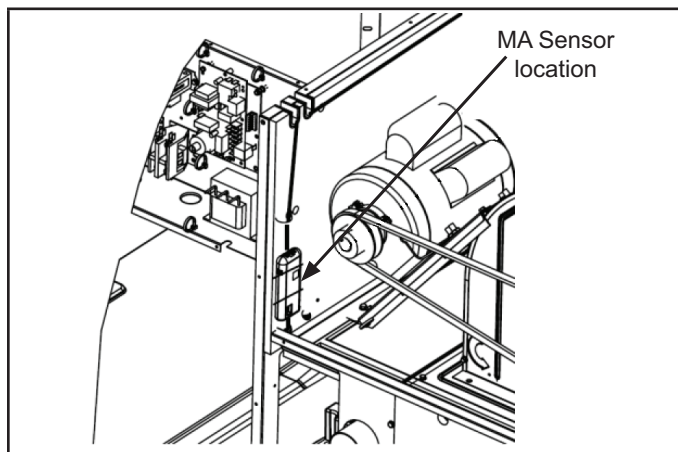
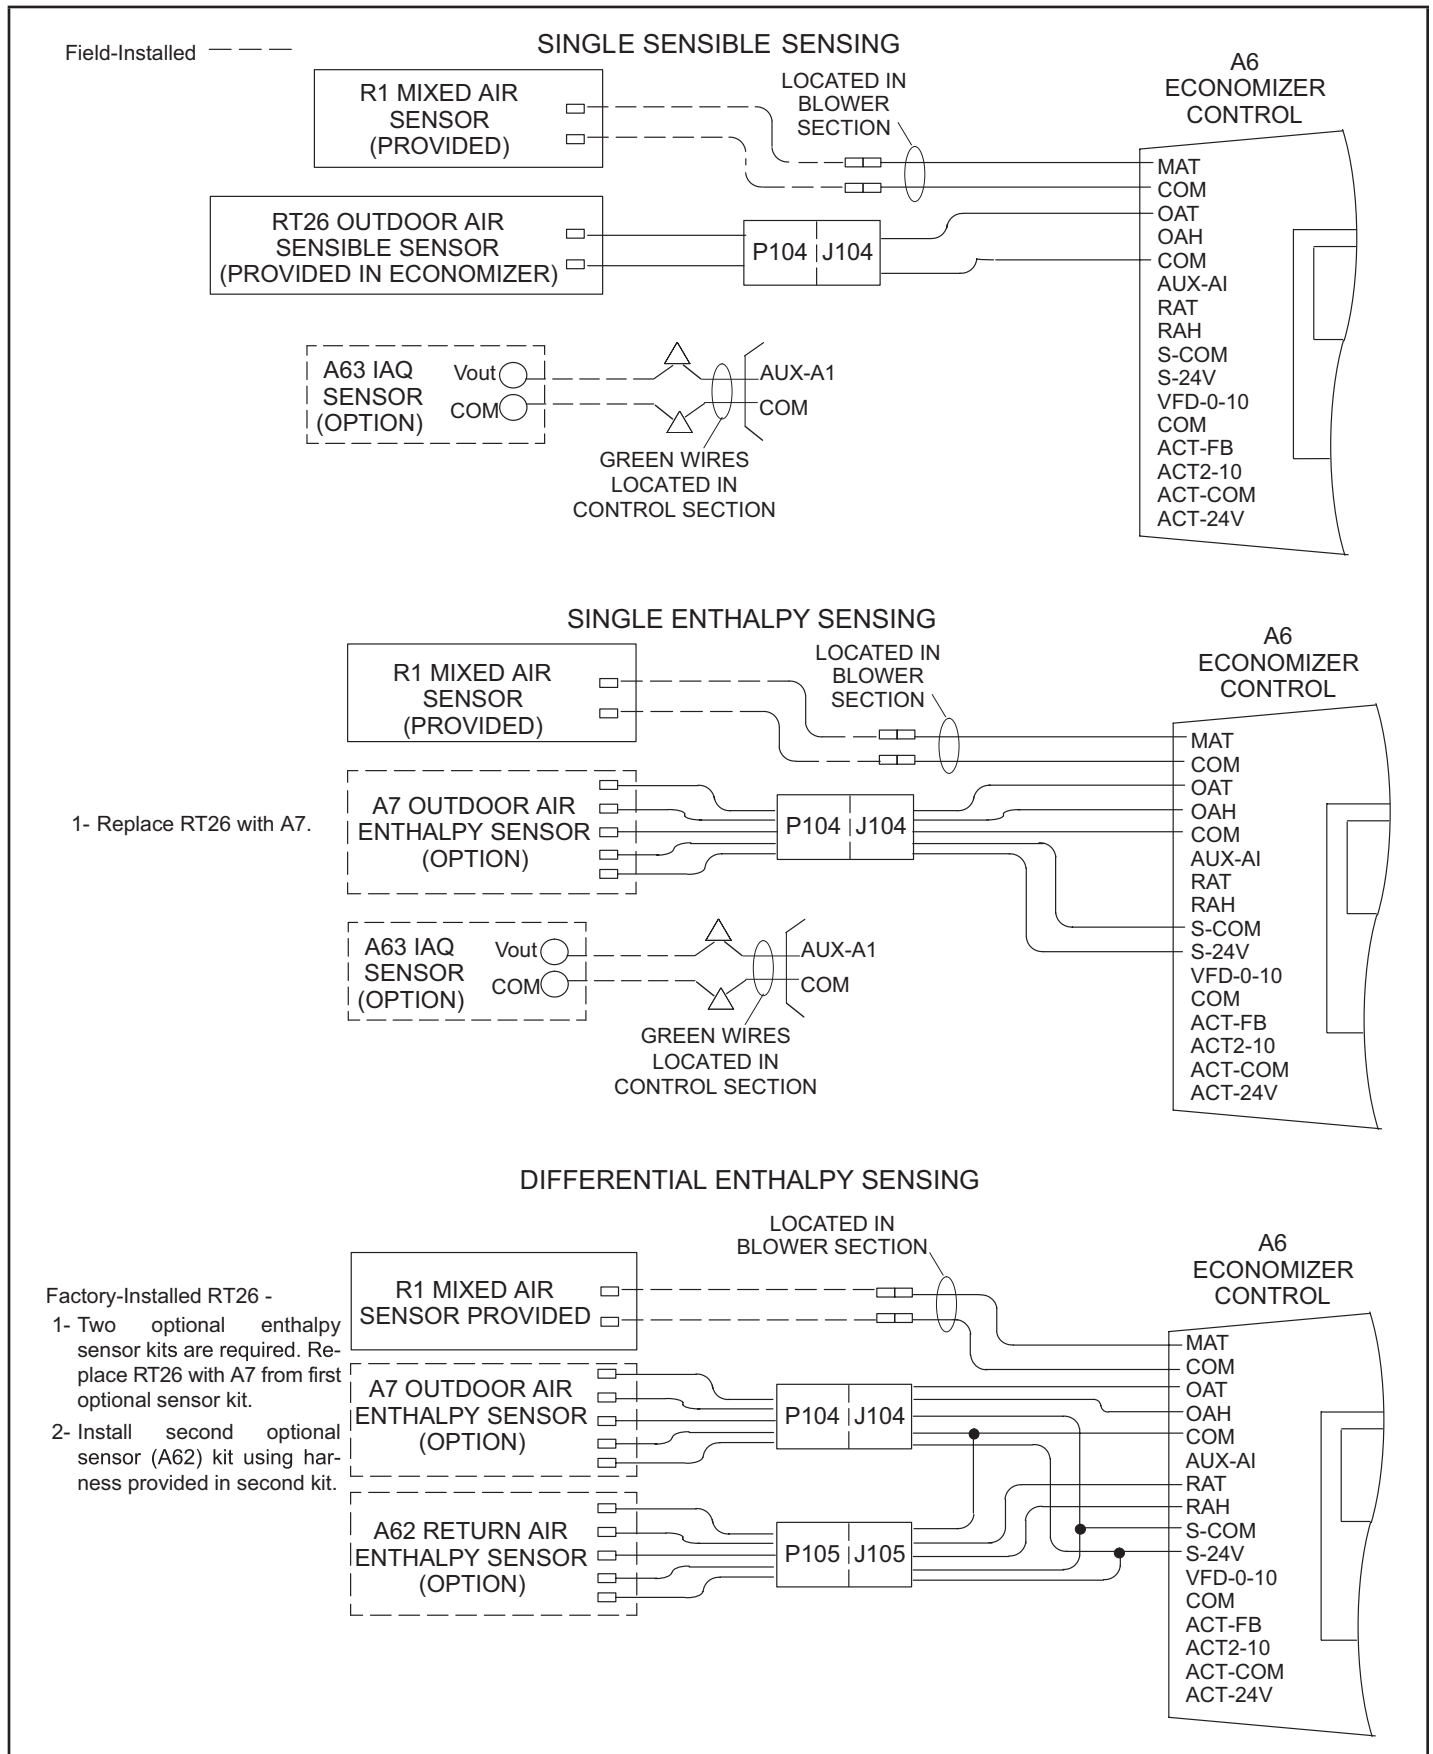

FIGURE 7 - Mixed Air Sensor Installation
FIGURE 8
For proper operation, the IAQ sensor must provide a 2-10VDC, 100 ohm impedance signal. Connect sensors to the green IAQ leads provided on the economizer control module in the filter section as shown in FIGURE 7 and FIGURE 8.
- 2 - Connect any optional sensors as shown in FIGURE 8.